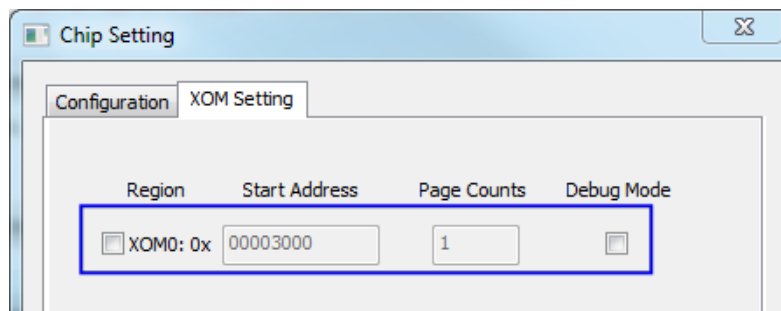

Figure 4-5 Check XOM Status
10. Click “**Refresh**” and then re-enter “XOM Setting” page to check XOM configure status, as shown in Figure 4-5.